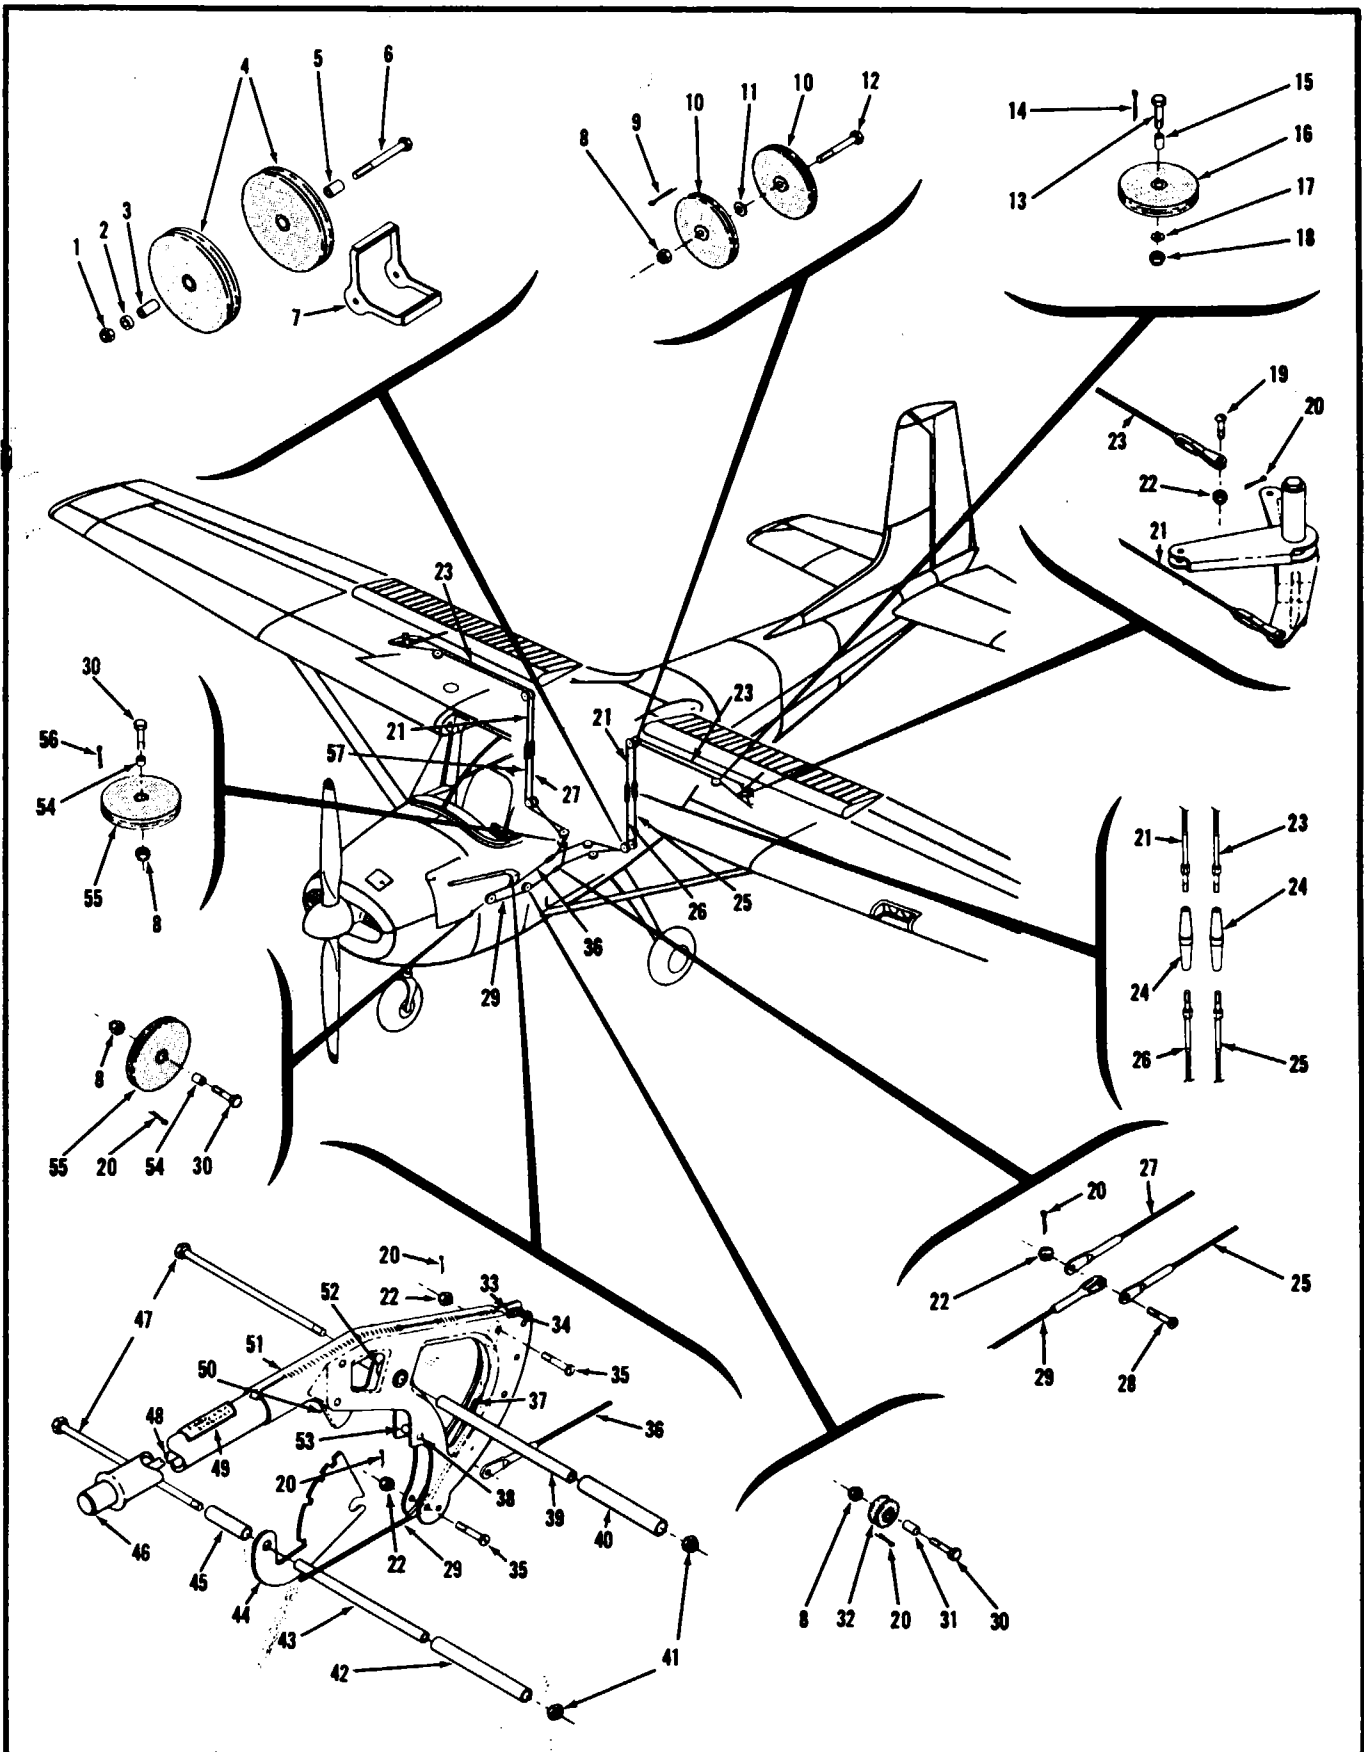
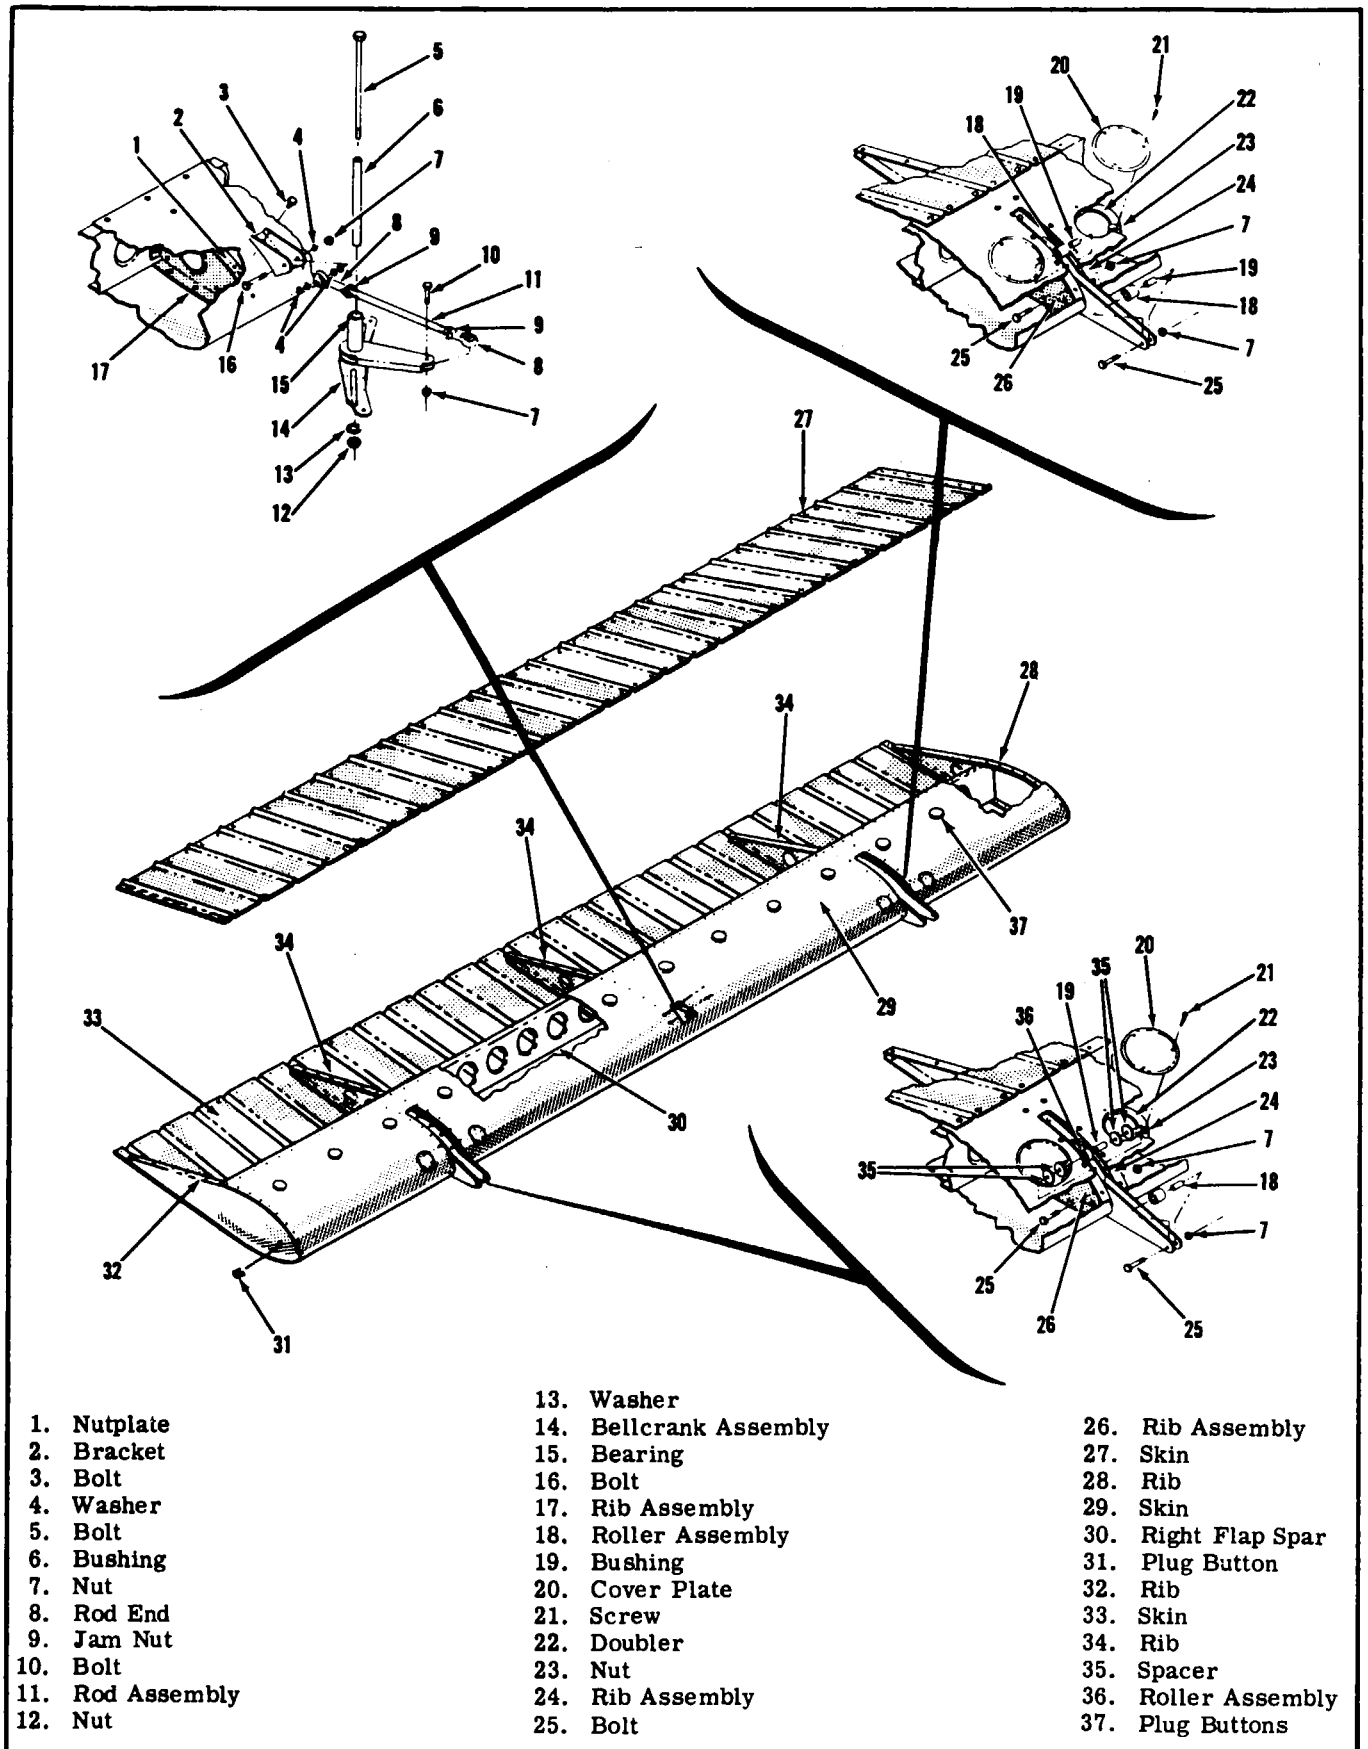

Figure 7-2. Flap Control System (Except 150)
Figure 7-3. Flap and Flap Bellcrank Installation
References for Figure 7-2.
**7-8. REMOVAL OF THE FLAP LEVER ASSEMBLY.** (See figure 7-2.)
- c. Remove nuts and bolts through bushings (40) and (42). Work lever assembly free of tunnel structure.
**7-11. REMOVAL OF FLAP BELLCRANKS.** (See figure 7-3.)
**7-13. INSTALLATION OF THE FLAP BELLCRANK.** (See figure 7-3.)
- a. Position the bellcrank and install bolt (5) through the top of the wing and the bellcrank pivot bushing. Secure bolt with washer and nut.
**7-13. REMOVAL AND REPLACEMENT OF CABLES AND PULLEYS** in the flap system may be accomplished using figure 7-2 as a guide.
**7-14. REMOVAL OF FLAP.** (See figure 7-3.)
- b. Disconnect push-pull rod (11) from the flap by removing nut, washer, and bolt.
- c. Remove nut (7) and bolt (25) at each flap track,
7-16. INSTALLATION OF FLAP. (See figure 7-3.)
- a. The model 150 has 11 plug buttons in each flap. All other models have 12. The plug buttons are installed in the top of the flap (see figure 7-3) 7/8" forward of the edge of the corrugated skin. All dimensions given are to hole centers.